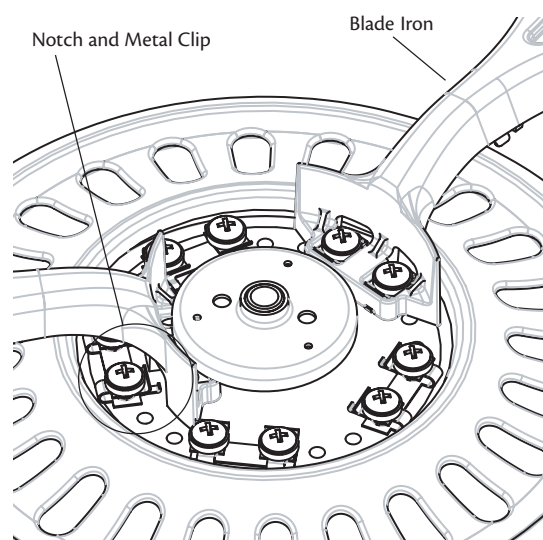

Figure 16 - Assembling the blade iron
2. Slide the blade iron under the switch housing plate aligning the two notches with the two metal clips as shown in Figure 16. It may help to press down on the opposite side of the motor housing while installing.